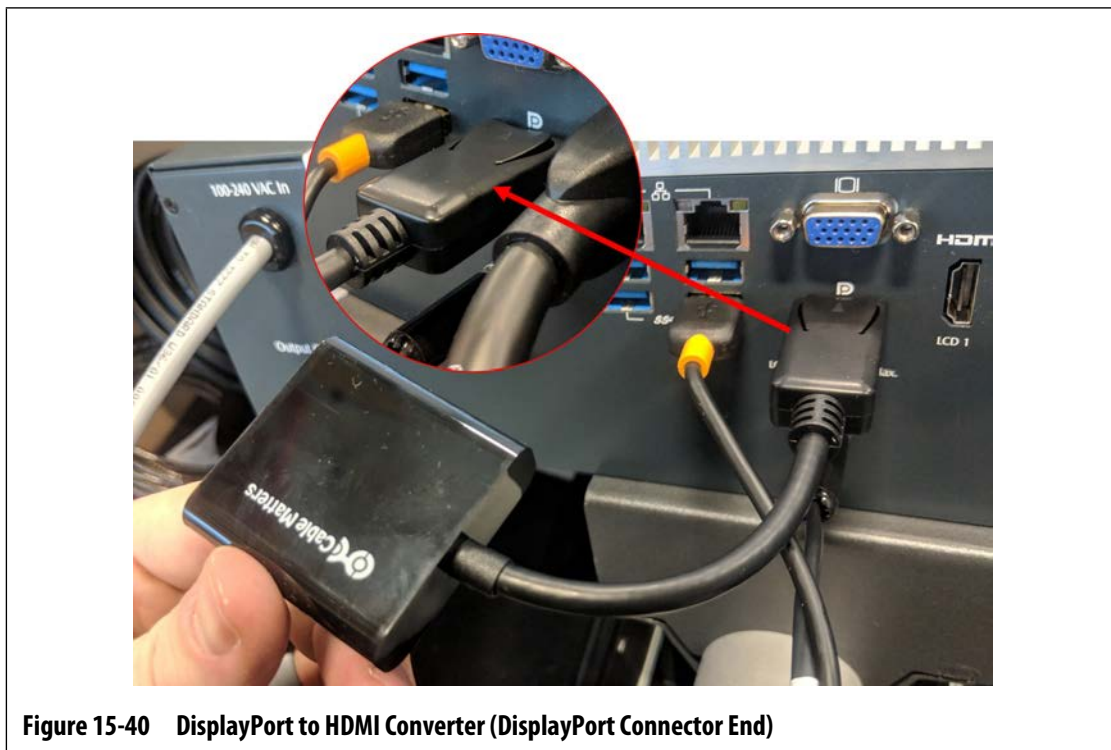

Figure 15-40 DisplayPort to HDMI Converter (DisplayPort Connector End)
5. Connect the DisplayPort to HDMI Converter (DisplayPort connector end) to the DisplayPort connector (behind the VGA connector) on the bottom of the MCU enclosure. Refer to Figure 15-40.